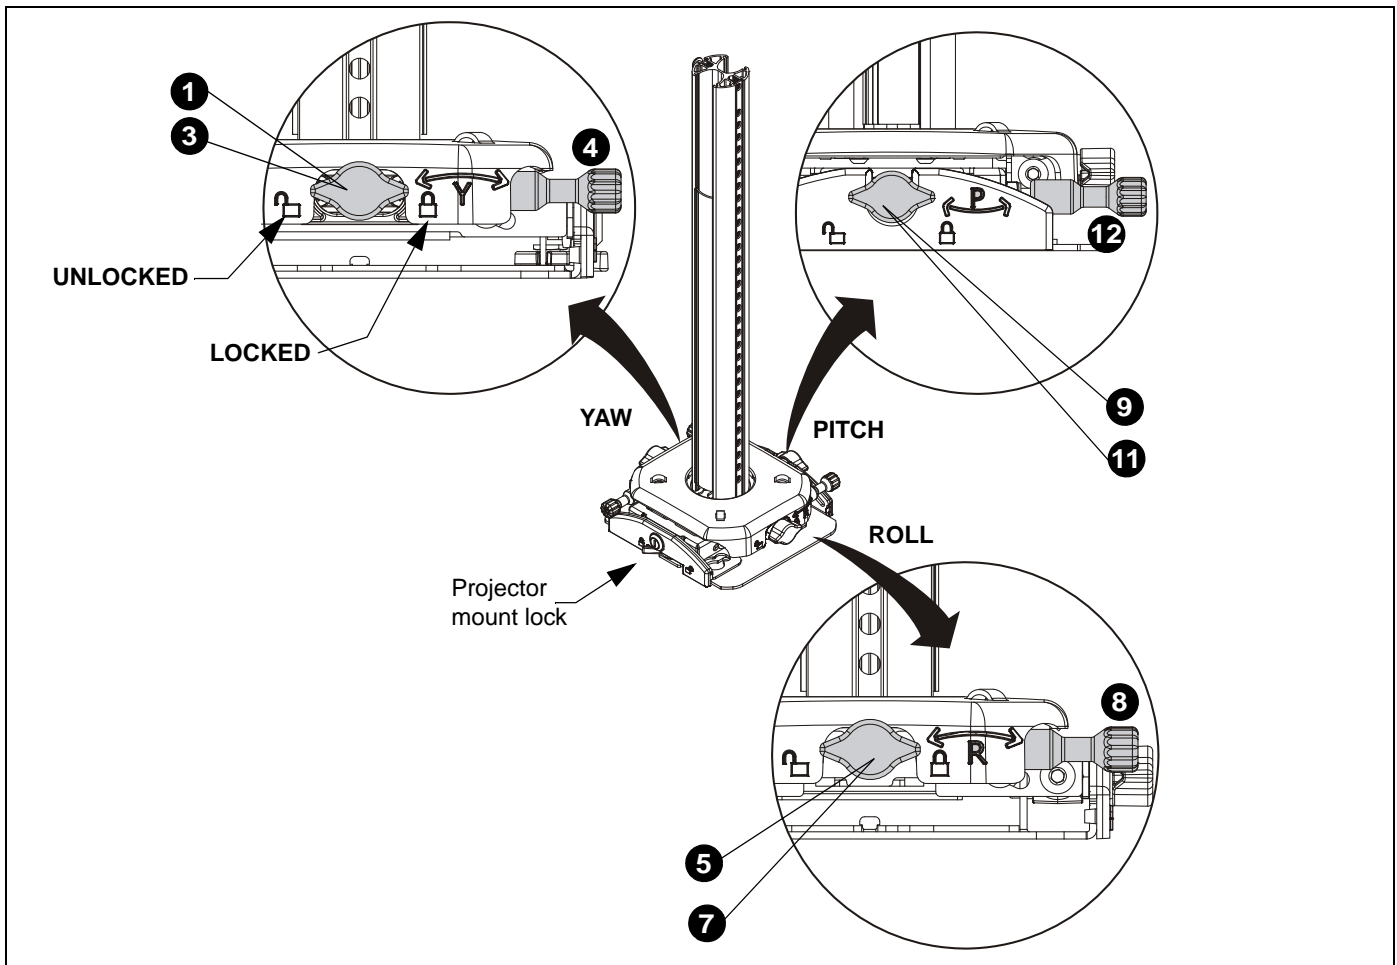

Figure 23
NOTE: Be sure to use the correct adjustment feature (**Yaw**, **Roll** or **Pitch**) when adjusting the projector mount. (See Figure 23)
4. Turn YAW micro-adjustment knob right or left until image is properly aligned on target. (See Figure 23)
8. Turn ROLL micro-adjustment knob right or left until image is properly aligned on target. (See Figure 23)
12. Turn PITCH micro-adjustment knob right or left until image is properly aligned on target. (See Figure 23)